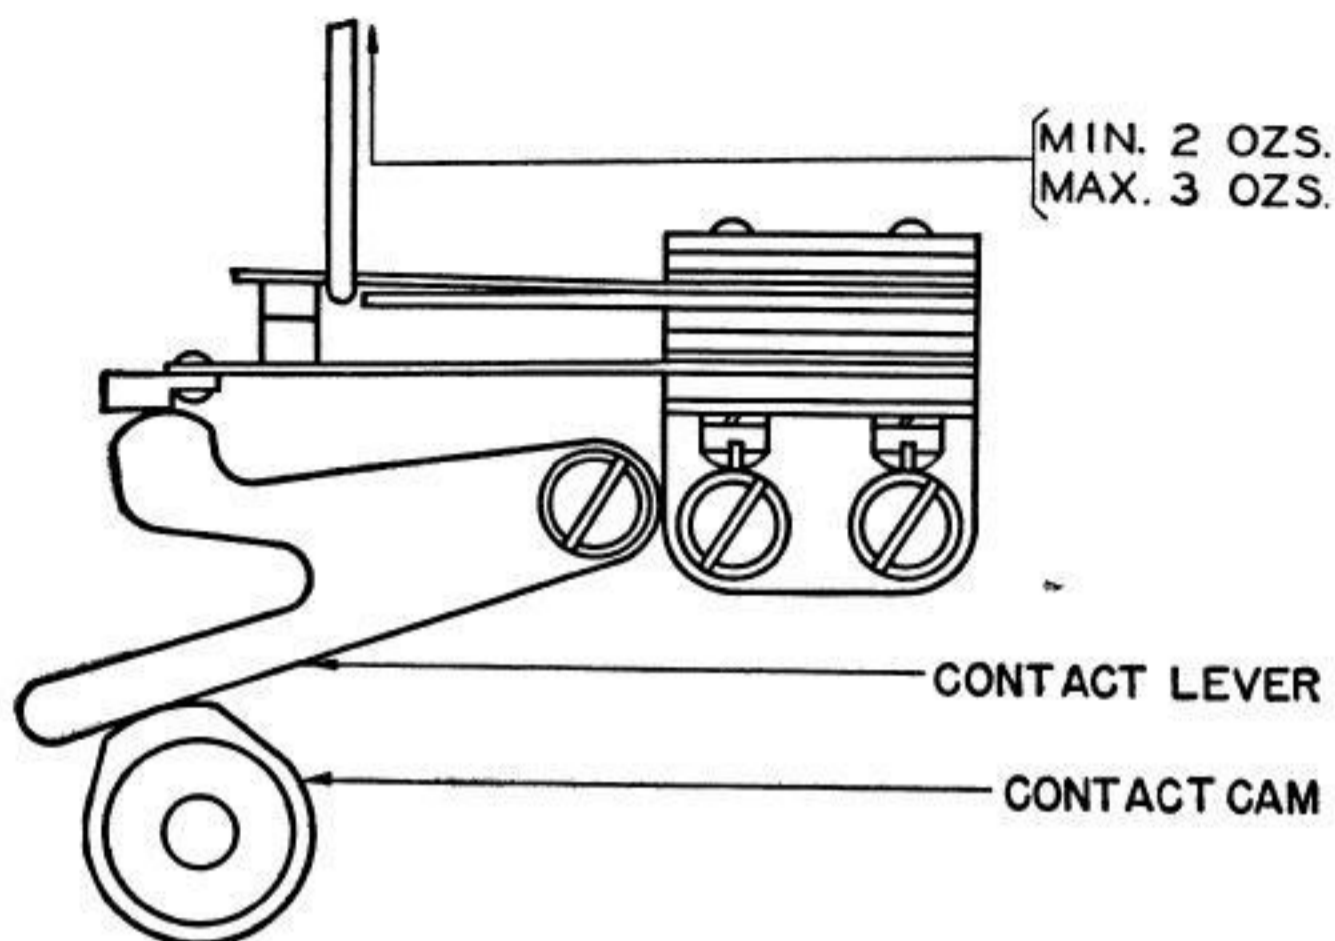

Fig. 30
- (a) To adjust, bend the short lamp contact spring and re-check 2.65 and 2.66. **Fig. 30**